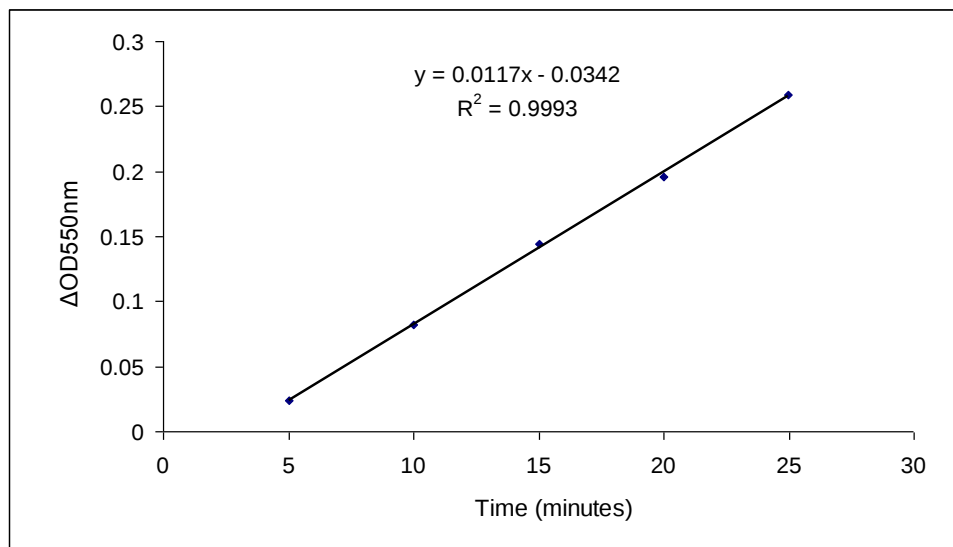

Figure 2. The change in absorbance the ΔOD_{550nm} of diluted PLD positive control during the time at 550nm.
Diluted PLD positive control is measured with the PLD Assay kit after various reaction times (Figure 2). Linear detection range is 0.00016 to 0.052 U/ml in 96-well plate assay.
4. Obtain the change in absorbance T_{20} and T_0 based on the curve of diluted PLD positive control, as shown in Figure 2.